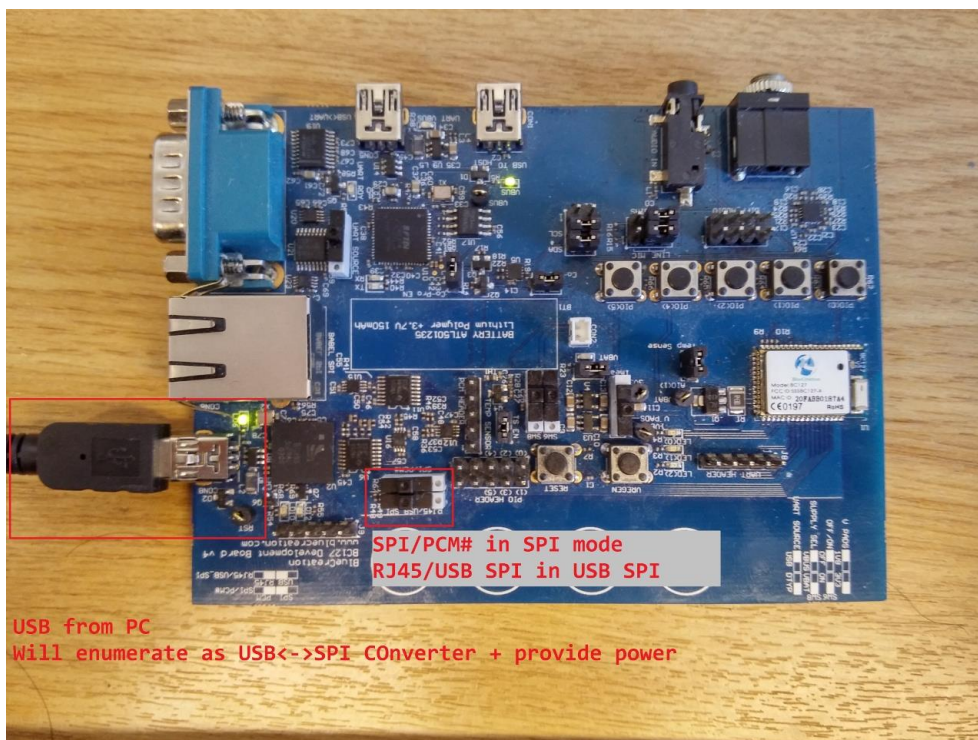

Figure 1: Connecting a v4 and later BC127 Dev Board to a PC for programming
- 1.2.1.2. Ensure SPI/PCM# switch is in SPI mode (Figure 1)
- 1.2.1.3. Ensure RJ45/USB SPI switch is in USB SPI mode (Figure 1)
- 1.2.1.4. Ensure SUPPLY SEL switch is in VBUS mode (Figure 1)
- 1.2.1.5. Plug in mini-USB side of USB cable to your Dev Board's USB SPI connector (CON8) (Figure 1)